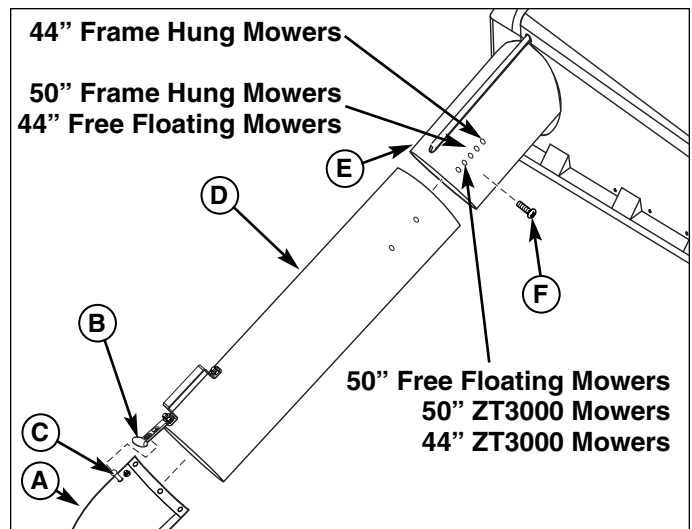

Figure 10. Install Middle Tube
2. See Figure 10 for correct hole location and secure the upper tube (E) to middle tube using screw (F).
3. Slide middle tube (D) into upper tube (E).
4. Slide middle tube (D) over boot (A). Pull strap (B) and place hole completely over pin (C).
4. Insert lower chute (A, Figure 10) and middle tube (D) into upper tube (E) and clip into turbo.